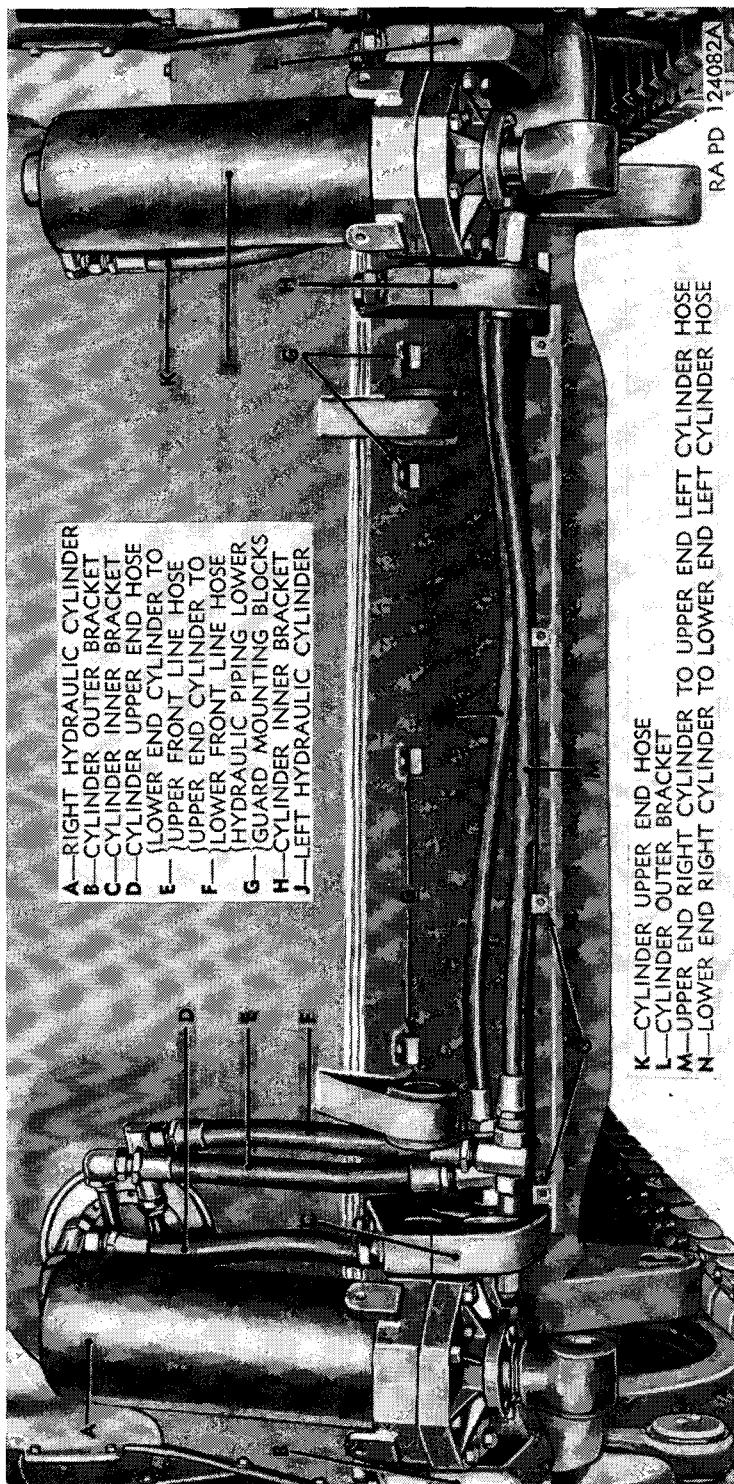

Figure 13. Hydraulic cylinders and exterior hydraulic lines.
d. Fasten a hoist chain to the handle on top of the right hydraulic-cylinder guard, and raise the guard (with cylinder attached) into position between the right hydraulic-cylinder-inner bracket and the inner half of the outer bracket (fig. 13).
h. In similar manner, locate, and tack weld two more mounting blocks to the hull at positions to receive the remaining two bolts which will hold the top edge of the guard (fig. 13).